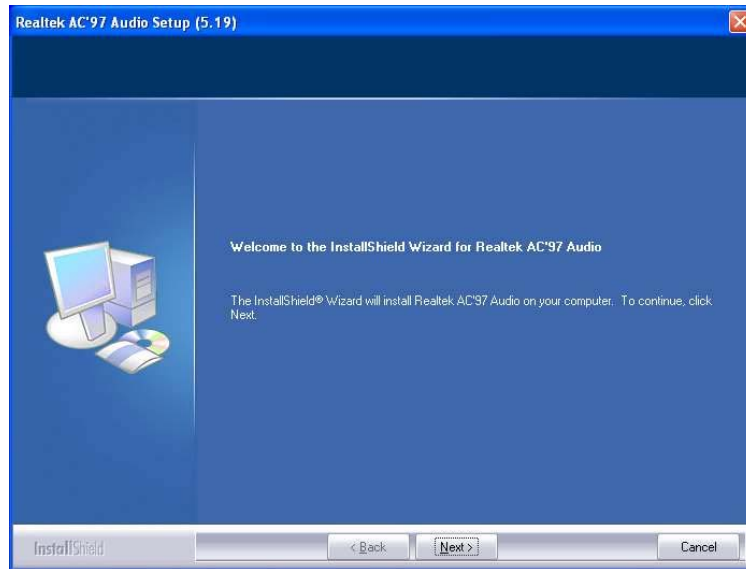

Figure 7-21: InstallShield Wizard Welcome Screen
Step 5: Once initialized, the **InstallShield Wizard** welcome screen appears (Figure 7-21).